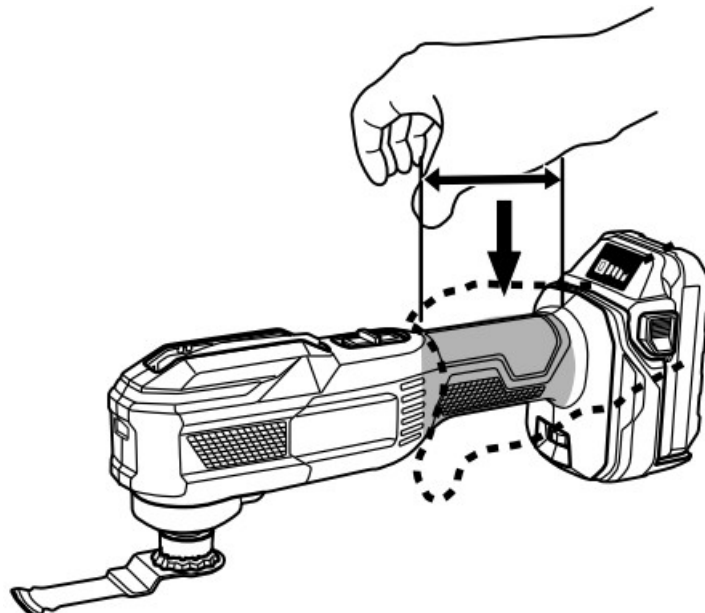

Fig. 1
3. Always hold the tool firmly with one hand on housing (Fig. 1). Do not touch the metal part.